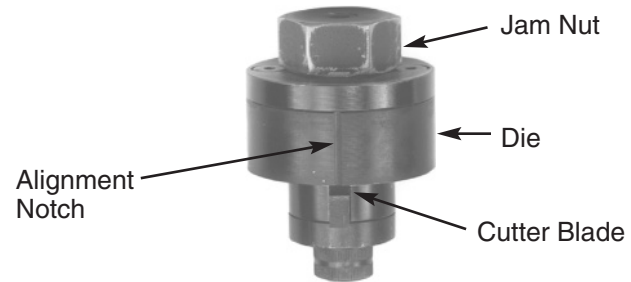

Figure 2
1. Loosen the cutter jam nut, 2 or 3 turns. Insert the cutting tool into the 1 $\frac{1}{32}$ " panel opening until the pilot shoulder extends into the hole and the die rests against the panel. (Figure 2)